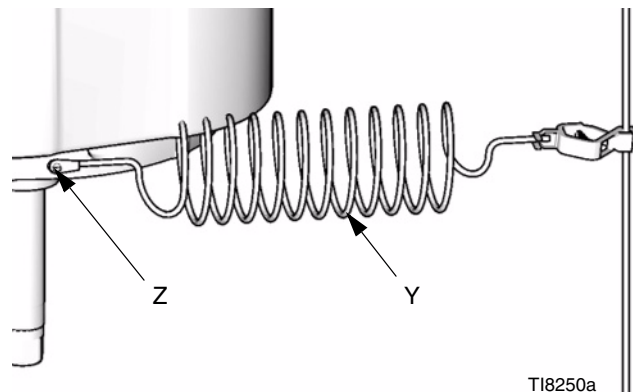

FIG. 1
**Pump:** use a ground wire and clamp. Remove the green ground screw (Z) from the bottom of the air motor. Insert the screw through the loop on the end of the ground wire (Y) and reattach the screw to the air motor. Connect the ground clamp to a true earth ground. See FIG. 1.